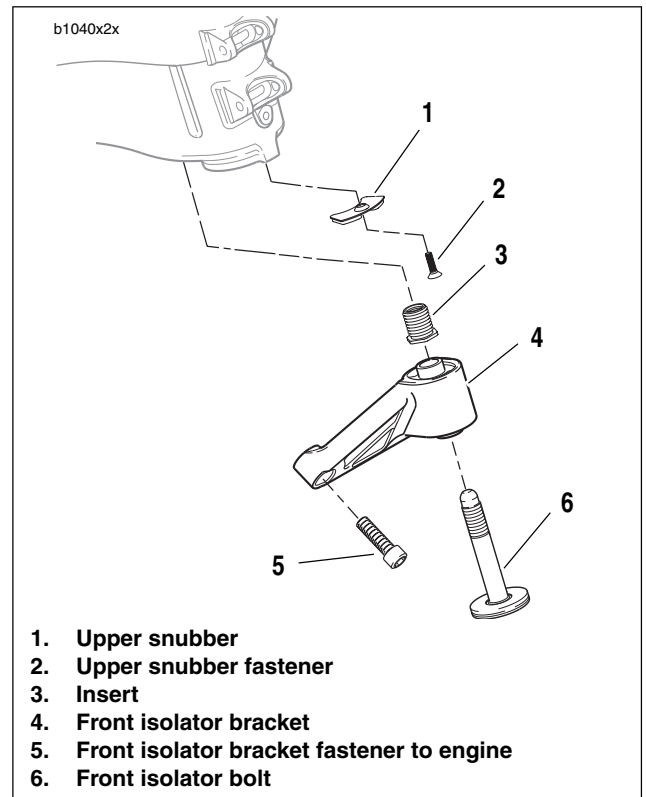

Figure 2-86. Front Isolator
3. See Figure 2-86. Remove front isolator bolt (6).
4. Remove front isolator mount fasteners (5).
5. Remove front isolator bracket (4).
6. Remove upper snubber fastener (2) and remove upper snubber (1).
1. See Figure 2-86. Install upper snubber (1) tightening snubber fastener (2) to 12-36 in-lbs (1-4 Nm).
3. See Figure 2-86. Use LOCTITE 272 on front isolator bracket (4) and install. Tightening fastener (5) to 49-51 ft-lbs (66-69 Nm).
See Figure 2-86. If the threaded insert (3) is damaged and needs to be replaced, install new insert with LOCTITE 272 and tighten to 49-51 ft-Lbs (66.4-69.1 Nm).